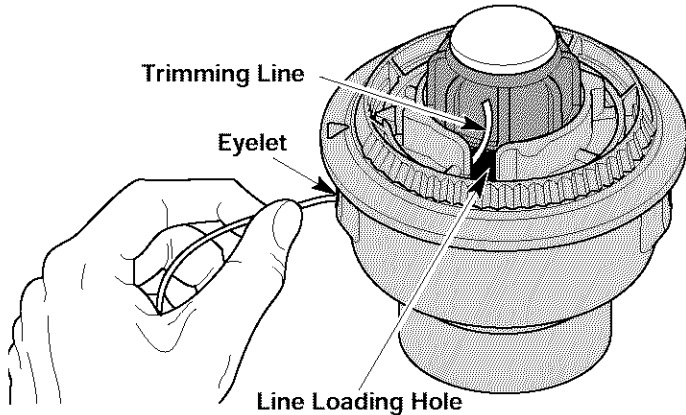

Fig. 21
3. Pull old line out of the line loading and line locking holes (Fig. 21 and 22).
4. Insert a piece of trimming line straight into one of the two eyelets in the outer spool. Push it up through the line loading hole in the inner reel (Fig. 21). Do not bend the line when inserting it into the eyelet.